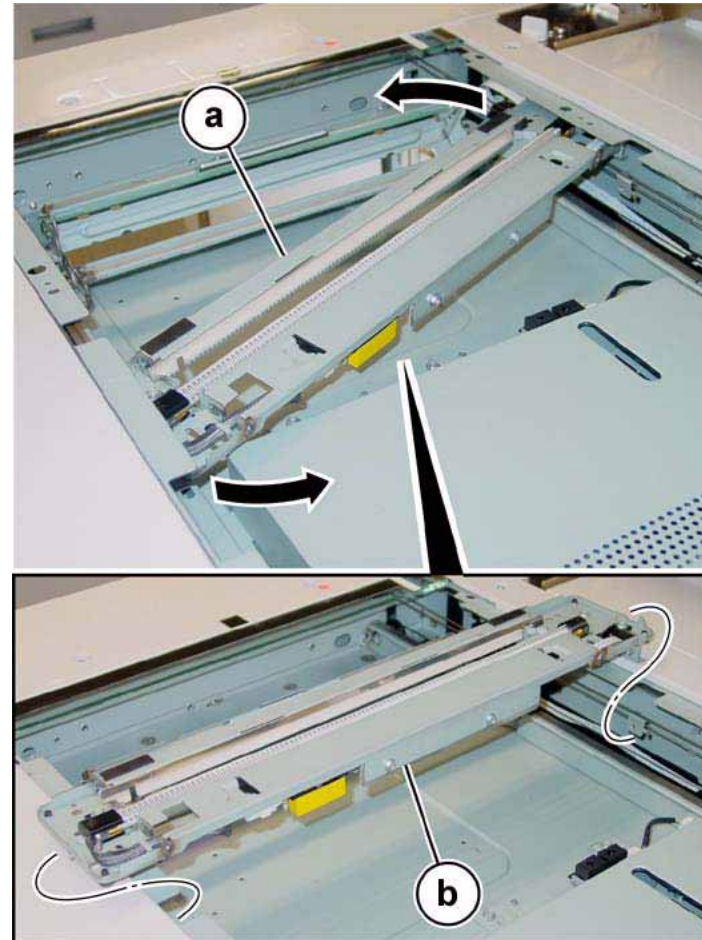

Figure 2 Full Rate Carriage removal
- Remove the Full Rate Carriage. Figure 2